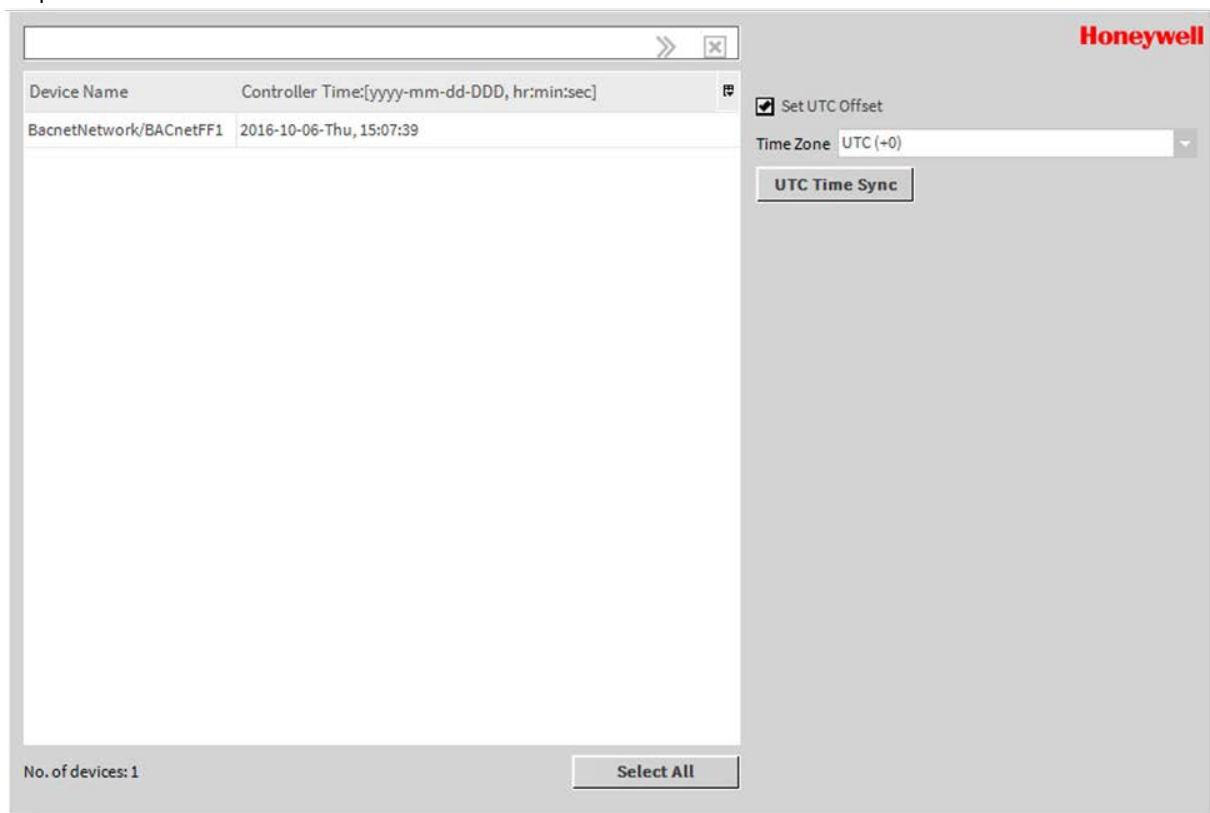

Figure 90: Time Sync View
**UTC Time Sync** option as shown in Figure 90. The time will be updated for the selected device.